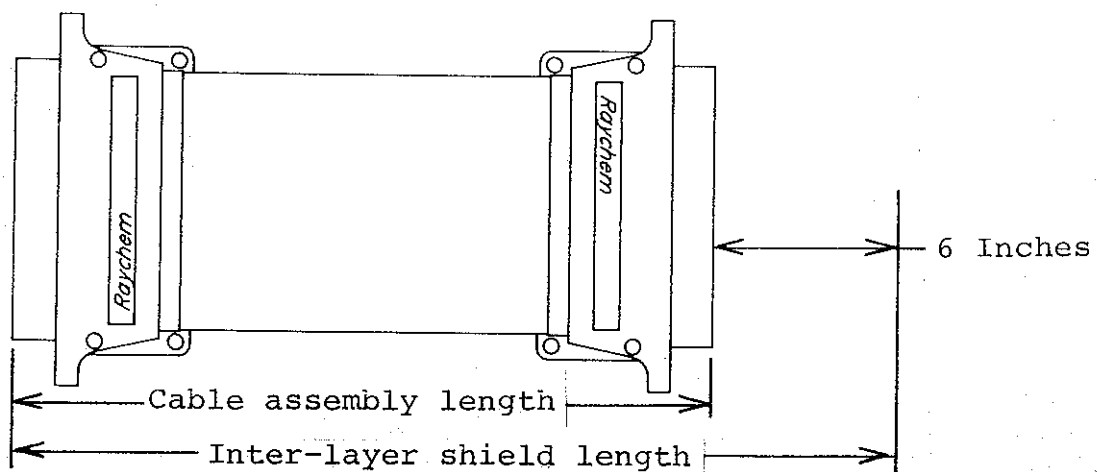

Figure 4. Length Determination of Inter-Layer Shield
2. Cut the inter-layer shield to the required length (Figure 4).